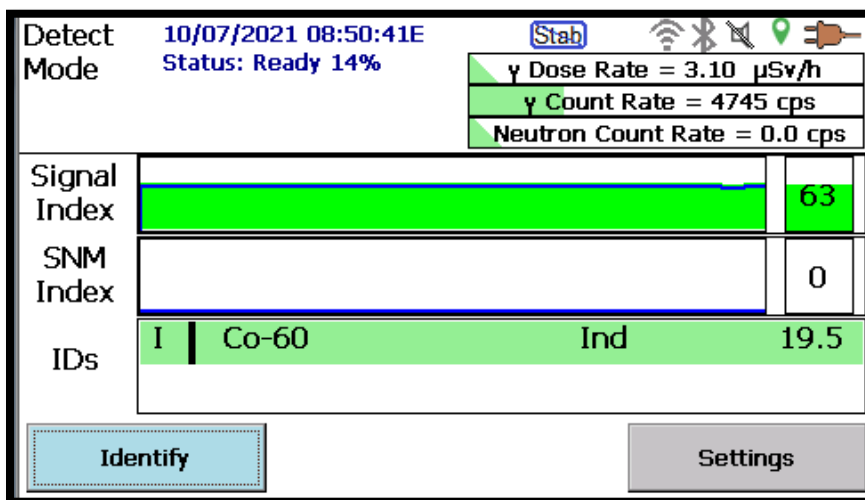

Figure 53. Detect Mode Screen
The Detect Mode screen (Figure 53) is the startup screen. Use it to survey areas and fixed or moving objects for sources of radioactivity.
- When radioactive nuclides are identified during the search process, the IDs appear in the section below the strip charts. Note the Co-60 identification in Figure 53. These IDs are present as long as the material remains in the detector field of view, then are removed from the screen.